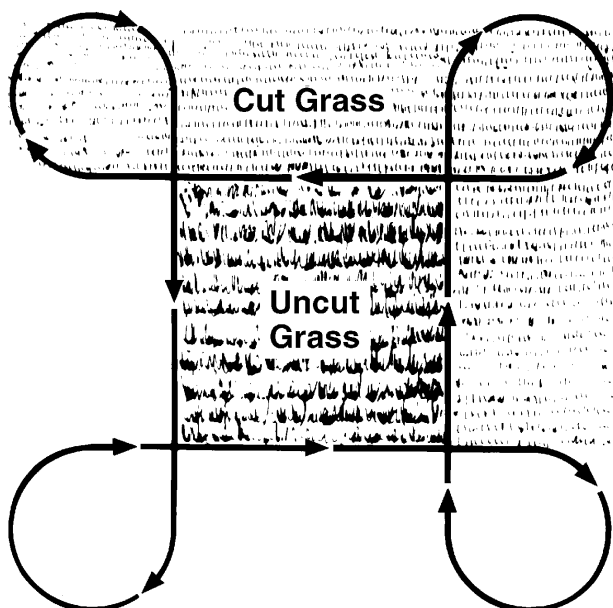

Figure 68
4. Follow the mowing pattern shown in Figure 68